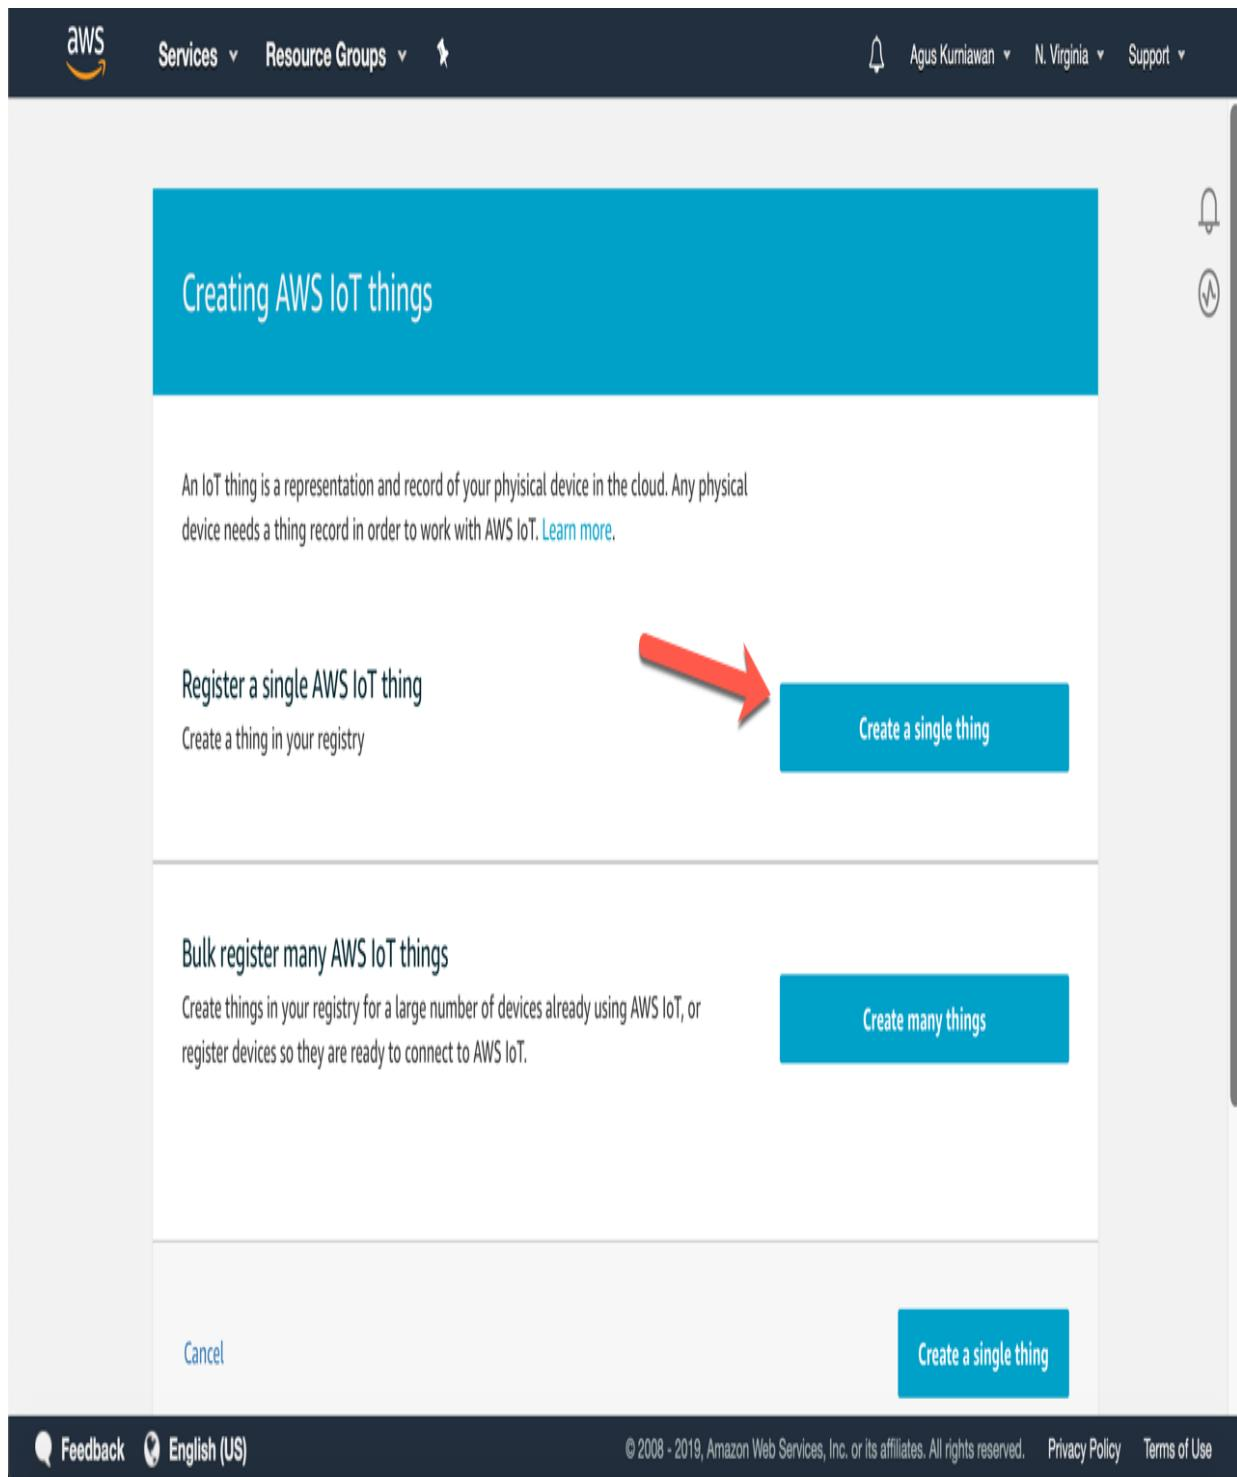

Figure 10.3: Registering a single device
7. You will get a web form, as shown in *Figure 10.3*.